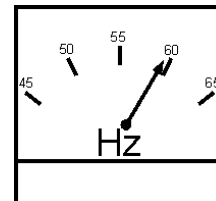

Figure 21. Frequency Meter (Hz)
10. The generator's frequency meter (Figure 21) displays the 60 cycle output frequency in **HERTZ**.